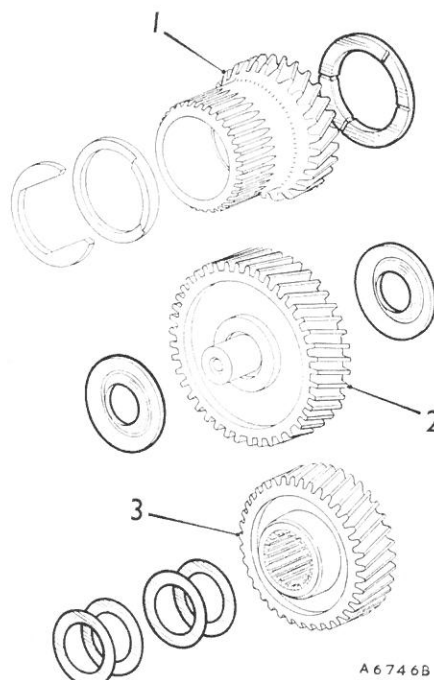

Fig. Aa.16
- (b) Fit one washer on each side of the idler gear (see Fig. Aa.16) as calculated in item (31).
- (33) Refit and align the converter outlet pipe.
- (34) Discard the converter housing joint washer used during operations (21) to (32). Refit the converter housing with a new joint washer, remove the pilot bars of Service tool 18G 1043 and tighten the securing nuts and set screws to the torque figures given in 'GENERAL DATA'.
- (35) Refit the input gear shaft nut and tighten to the correct torque figure (see 'GENERAL DATA'), using Service tools (18G 1088 and 18G 592).
- (36) Remove each pair of bolts in turn from the converter and fit new locking plates. Tighten the bolts to the torque figure given in 'GENERAL DATA', and tap up the locking tabs.
- (37) Lubricate the converter oil seal and refit the converter. Refit the washer (offset pegs) and the centre bolt with its lock washer. Tighten the bolt to the correct torque figure (see 'GENERAL DATA') with Service tools 18G 587 and 18G 592 and lock up the lock washer.
- (38) Refit the low pressure valve and gasket.
- (39) Refit the gear selector bell-crank lever, clevis pin, and rubber boot.
- (40) Refit the converter cover, the starter motor, and the rear engine mounting.
- (41) For refitting the engine and transmission to the car (see Section Aa.3).